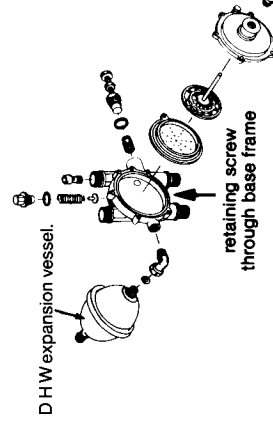

Fig. 41
- Refer to fig. 41
- Remove manifold (fig. 41) gives details of further disassembly.